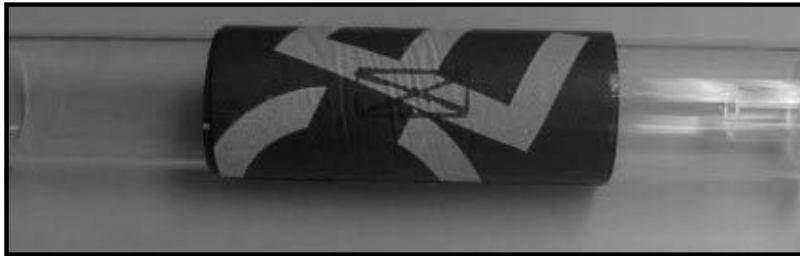

Figure 23: DMP-1 Material with Transducer Footprint Traced
7. With a marker, trace around the transducer footprint, as shown in *Figure 23* below.